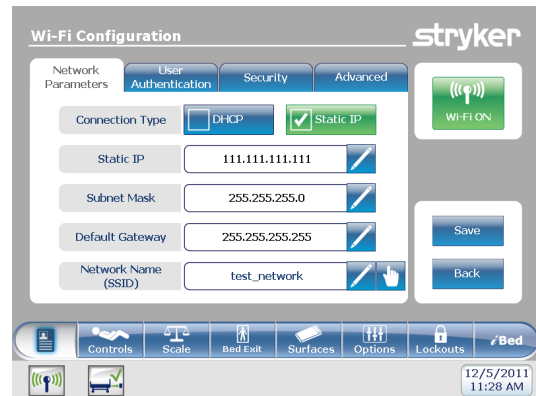

Figure 30: Network Parameters
1. From the Configuration Screen, press the “Wi-Fi Configuration” button to configure wireless settings for the bed. Figure (1) will appear.
3. To configure the network settings, tap on the **Network Parameters** tab (Figure 30).